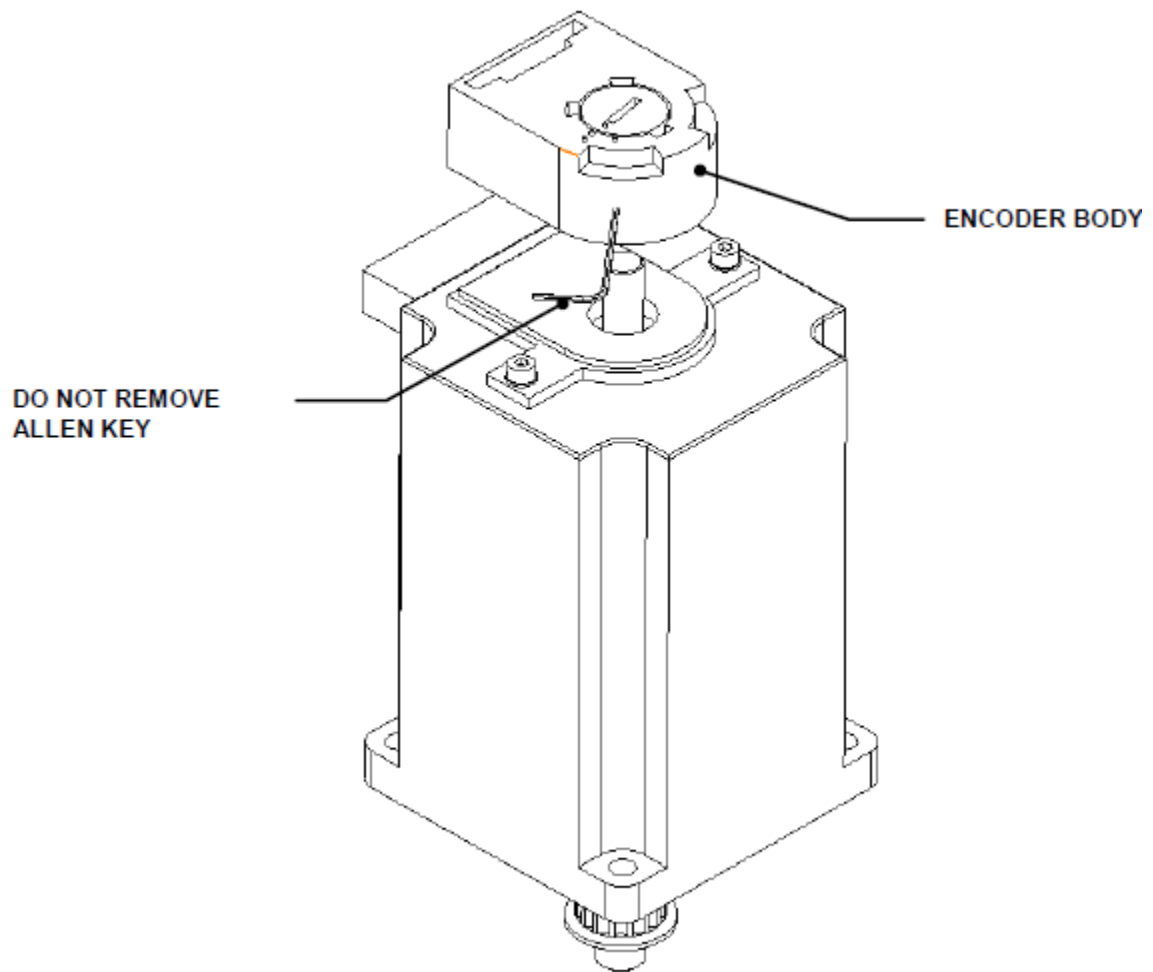

Figure X-9: Installing the Encoder
3. Install the encoder onto the Mounting Plate by snapping it in place. Do not remove the Allen key in the encoder (Figure X-9).